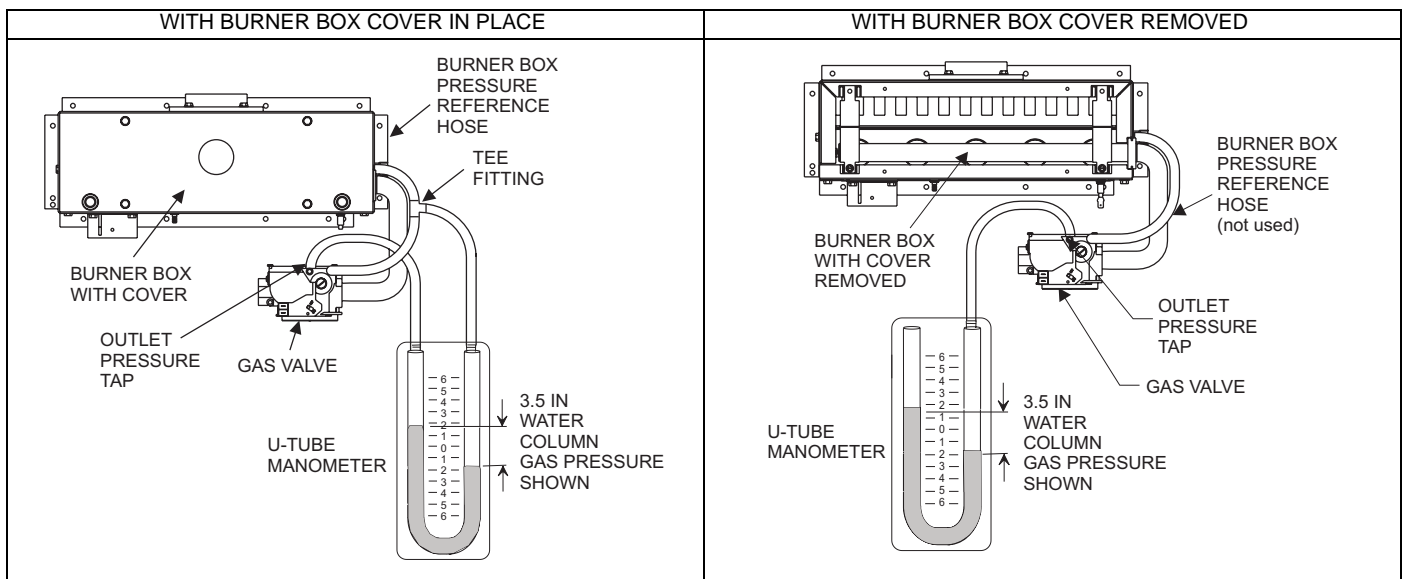

FIGURE 22: Reading Gas Pressure
- E. Use the 5/16" (7.94 mm x 1/8" (3.175 mm) reducing coupling and a 4" (101.6 mm) piece of 1/8" (3.175 mm) tubing to connect the positive side of the manometer to the gas valve pressure reference port. Refer to Figure 22 for connection details.
Remove the screws securing the burner box front cover plate. Remove the cover. The gasket and may stick in place. Connect the positive side of the manometer to the gas valve as described in E above. There will be no second connection to the manometer, as it will reference atmospheric pressure. Refer to Figure 22 for connection details.